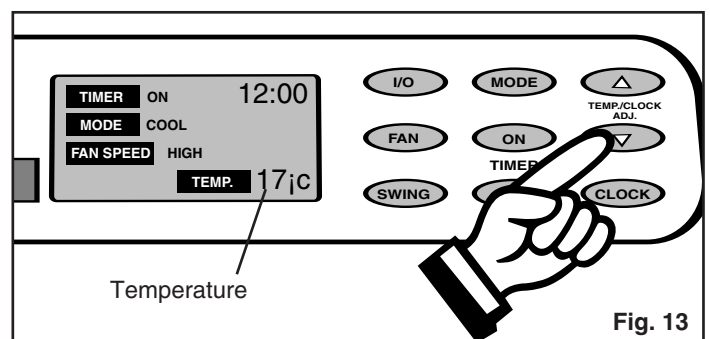

Fig. 13
4) Press the appropriate  $\Delta$  or  $\nabla$  key to select a suitable temperature setting. The temperature selected will be indicated in the **LCD (Liquid Crystal Display)** window. Temperature settings are adjustable between 17°C (63°F) to 30°C (88°F). *Fig. 13.*